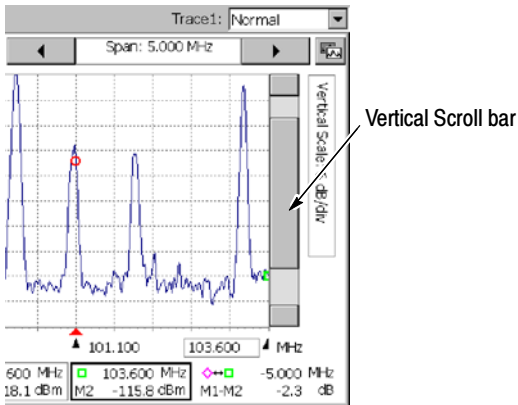

Figure 3-5: How the display appears with a small vertical scale value
- Drag the vertical scroll bar (only visible when the vertical scale is <10 dB/div) or tap the arrows at the ends of the scroll bar. See Figure 3-5.